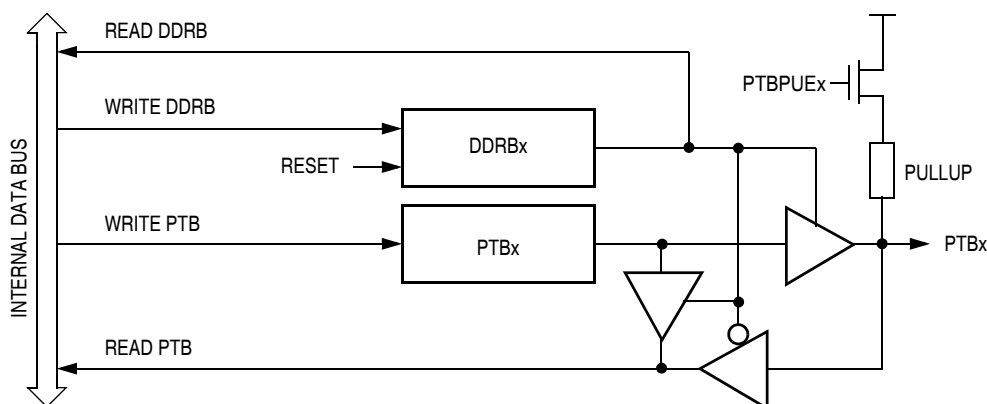

**Figure 12-7. Port B I/O Circuit**
*Avoid glitches on port B pins by writing to the port B data register before changing data direction register B bits from 0 to 1. Figure 12-7 shows the port B I/O logic.*